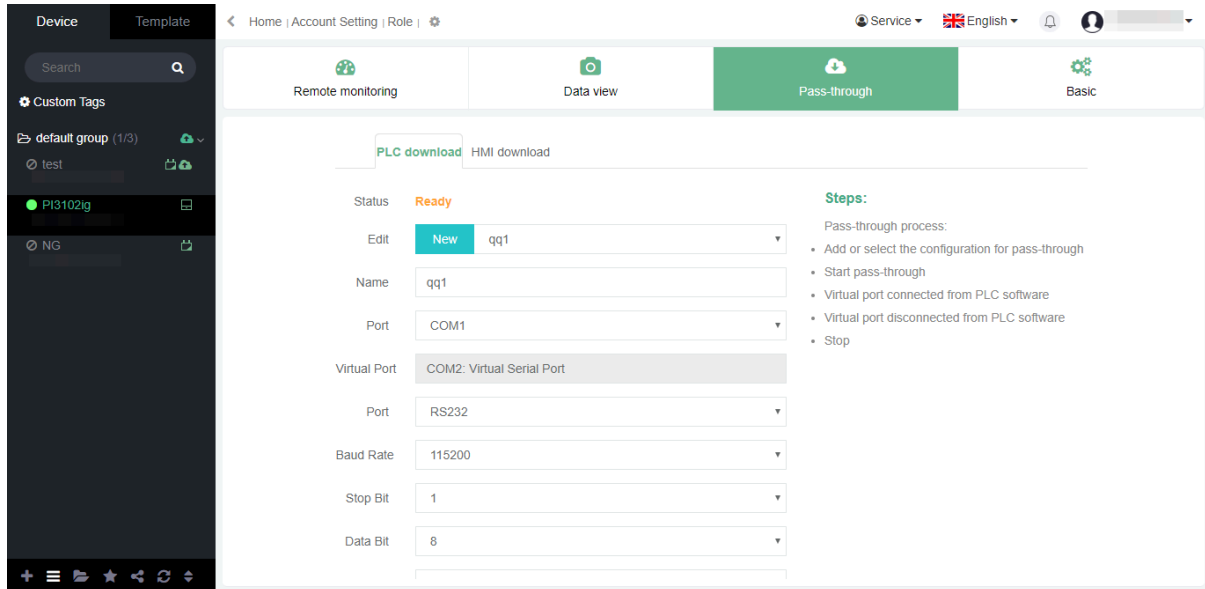
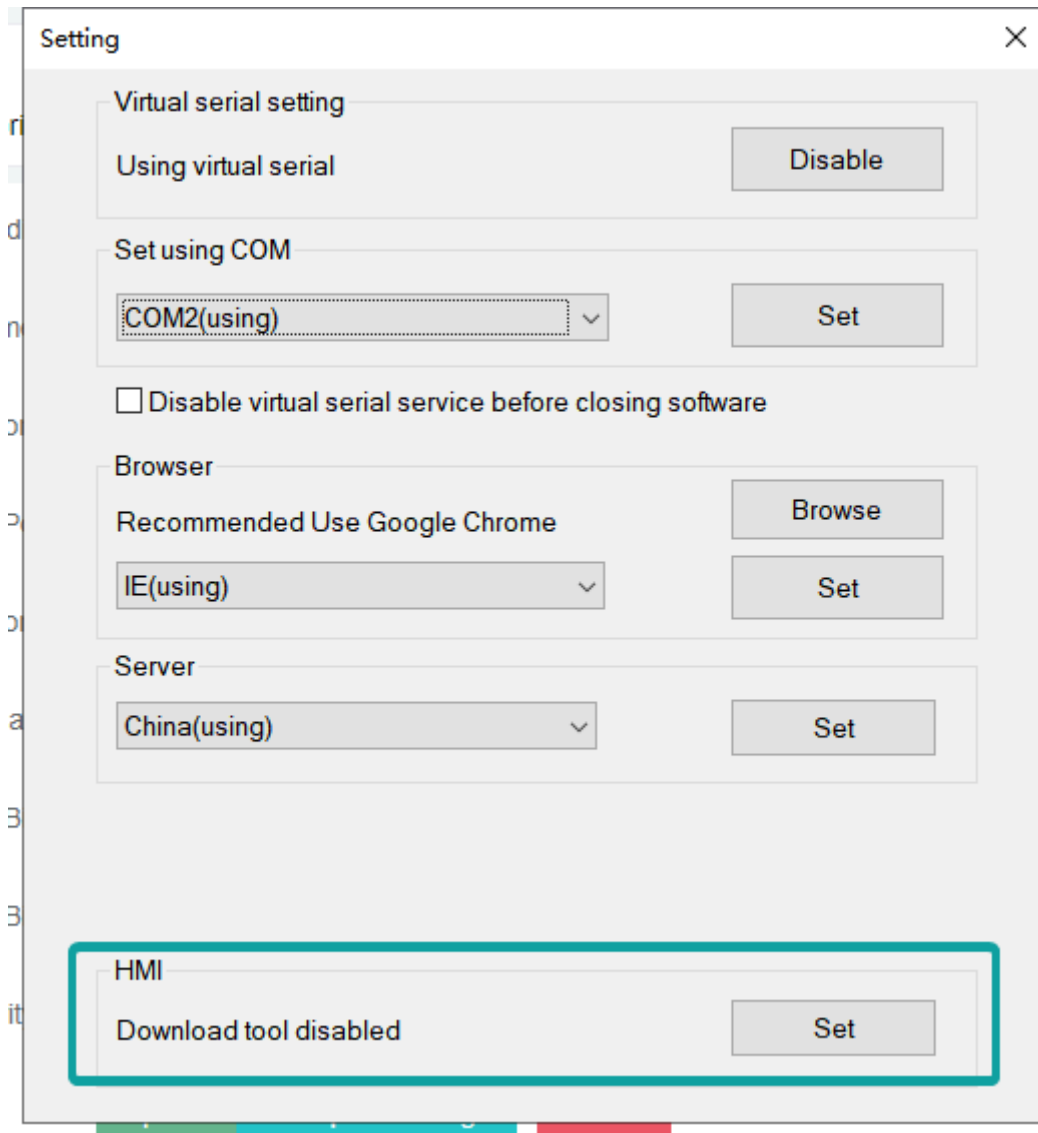

Figure 6
Figure 8
This function allows application on the PC to download directly to PLC or HMI, as shown in Figure 6:
②. After configuring the COM port, go to the remote downloaded, PLC download, to config the name, communication port, virtual serial port and other configurations as shown in Figure 6.
(2) HMI Download (only for Pass-through)
①. Click the setting (gear icon) button in the upper right corner of PC Client, and a dialog will pop up. The red area is the configuration of the HMI download tool. As shown in Figure 8: